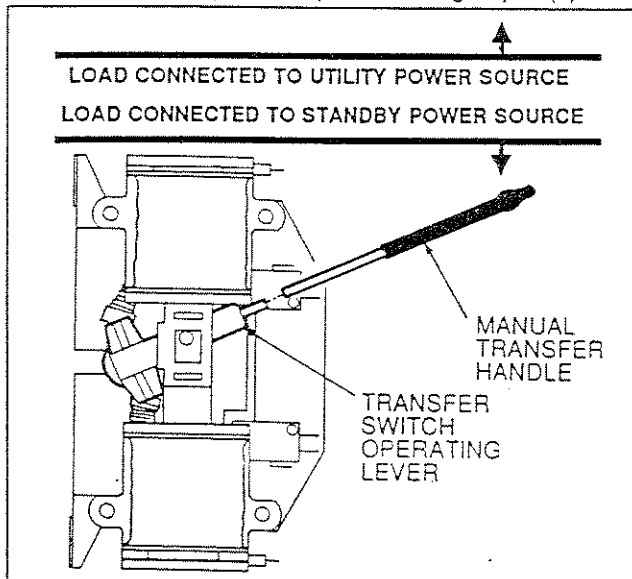

Figure 3. Manual Transfer Switch Operation
5. See Figure 3. Insert the uninsulated end of the handle over the transfer switch operating lever.